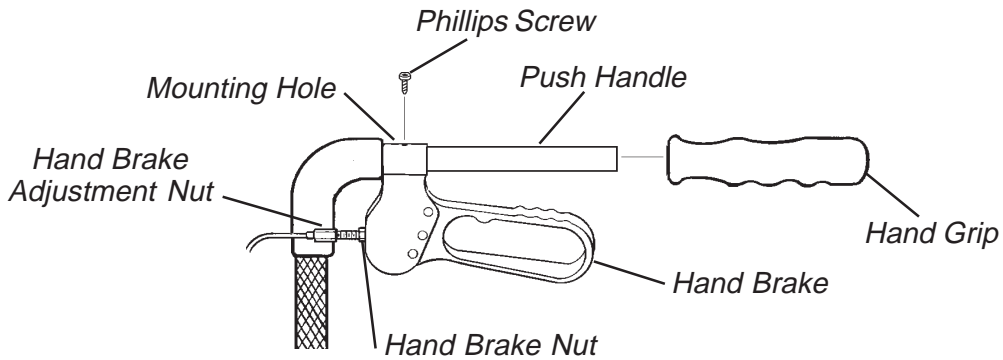

FIGURE 1 - REPLACING SPRINT CANES AND BRAKES
REPLACING SPRINT CANES AND BRAKES (FIGURE 1)
- B. Insert push handles into side frames with the hand grip facing the back of the rollator as shown in FIGURE 1.